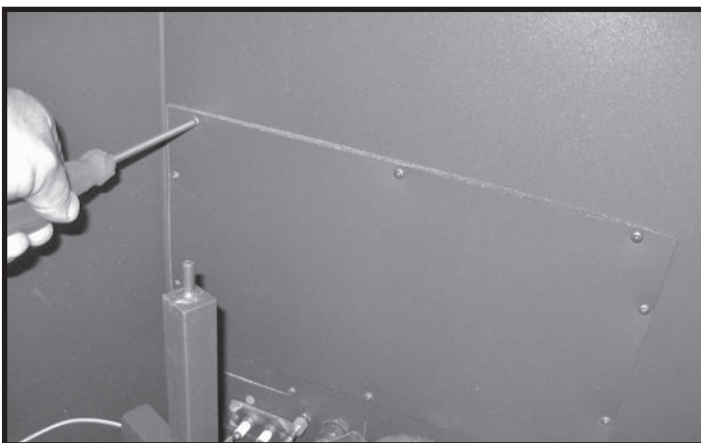

Figure 42: Gas valve access panel.
9. The gas valve assembly must be converted for Propane Gas. The hardware and full instructions are included in the SIT conversion kit. Access to the gas valve assembly is made through the side wall panel (Figure 42).